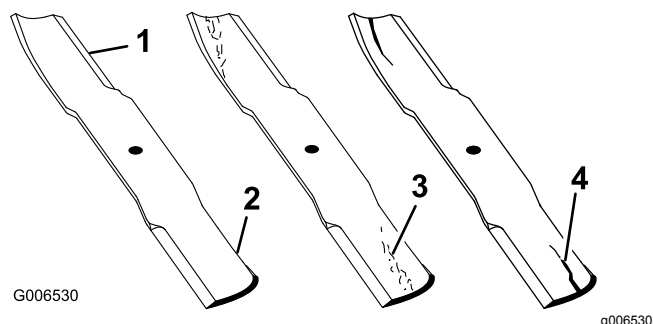

Figure 46
1. Inspect the cutting edges (Figure 46).
2. Inspect the blades, especially the curved area (Figure 46).
Note: If you notice any damage, wear, or a slot forming in this area (items 3 and 4 in Figure 46), immediately install a new blade.